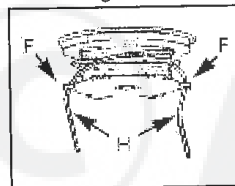

Fig. 9D
6. Thread the appropriate line ends (H) through holes (F) on the opposite side of the reel (Fig. 9D).